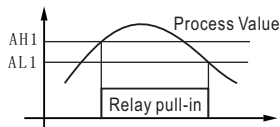

Fig 1
- 2) Set AH1>AL1, relay is for high limit alarm. See Fig. 1